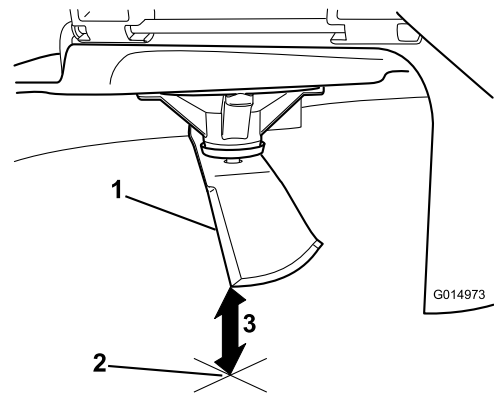

**Figure 60**
3. Measure from the tip of the blade to the flat surface (Figure 60).